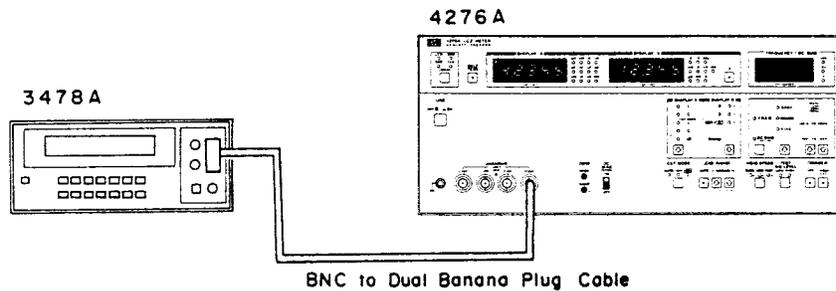

Figure 4-2. Test Signal Level Accuracy Test Setup.
1. Connect the BNC-to-dual banana plug cable to the UNKNOWN H_CUR terminal of the 4276A and to the 3478A's input as shown in Figure 4-2.